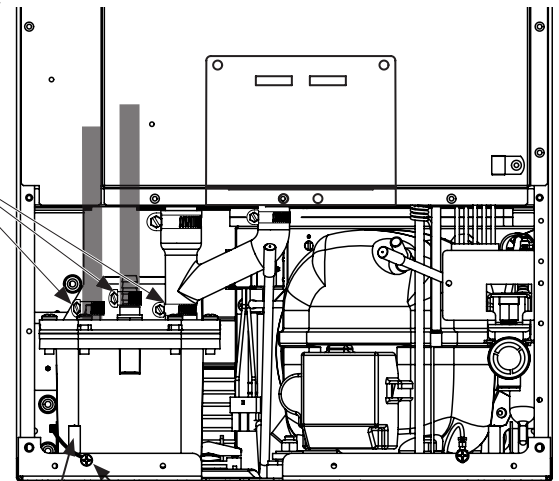
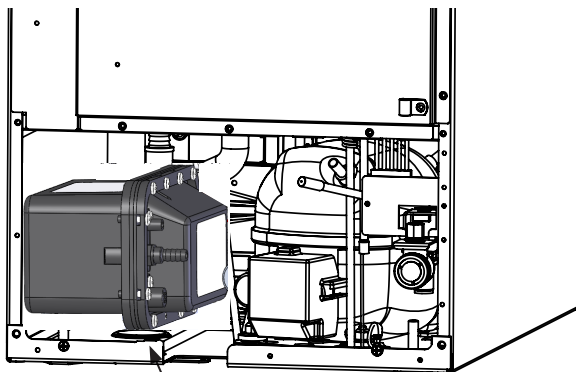

Figure 36
Figure 40
4. Unscrew the 3 hose clamps and remove the 3 hoses from the front of the drain pump. (See Figure 36).
5. Unscrew the leveling leg in the back corner until the end of the threaded portion is flush with the threaded nut insert in the base. (see Figure 36).
6. Rotate the drain pump and remove from the ice machine, (See Figure 40). It may be necessary to disconnect the ground wire connection in the back flange of the cabinet. (See Figure 36).